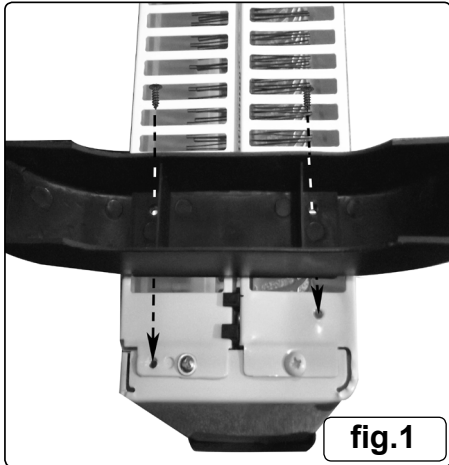

fig.1
- 3.2. **Mounting the feet. (fig.1.)** Turn the heater upside down and support it securely. Take one of the feet and place it onto the underside of the heater in the position indicated in fig.1. When the foot is positioned correctly 2 holes in the foot will line up with the holes in the underside of the heater. Fasten each foot down with the self tapping screws provided.